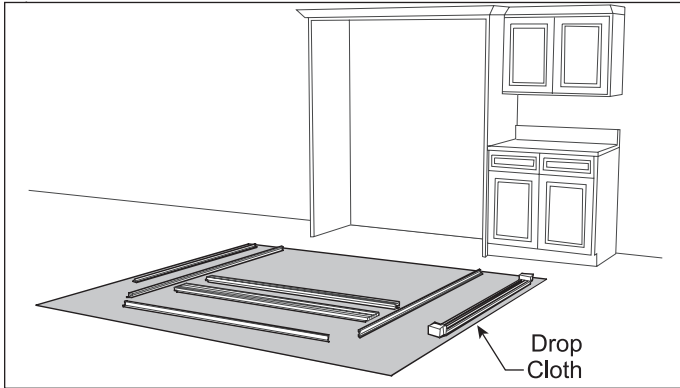

Figure 1
1. Lay the parts out on a cleared area face down. Be sure to place a drop cloth over the floor to prevent scratching trim kit and/or floor. (See Figure 1).